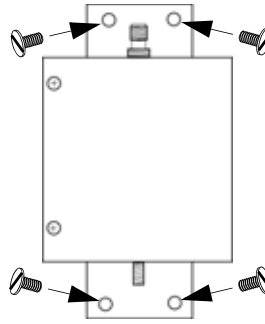

Figure 3-11. Attaching the IF Converter
4. Use user-supplied screws to mount the IF downconverter to a suitable wall or other structure (Figure 3-11). Be sure the distance along the cable route between the IF downconverter and the antenna is no more than 10 ft.